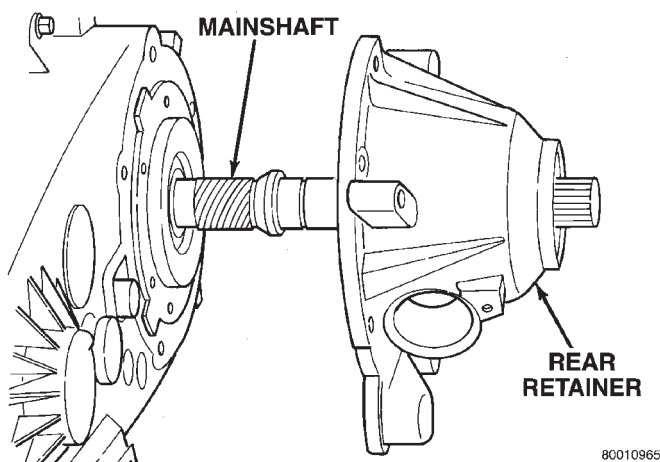

Fig. 10 Rear Retainer Removal
(7) Remove rear retainer. Tap retainer with mallet and pry upward to break sealer bead. Then slide retainer off case and output shaft (Fig. 10).